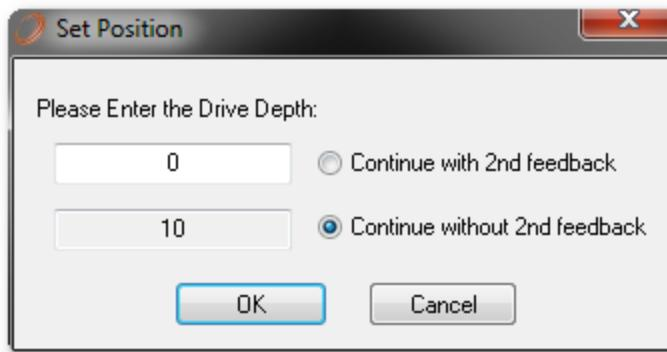

Figure 74: Set Position – Continuing without 2nd Feedback
4. Select **Continue without 2nd Feedback** (*Figure 74*), and then, in the upper field, enter the value you read on the drive.